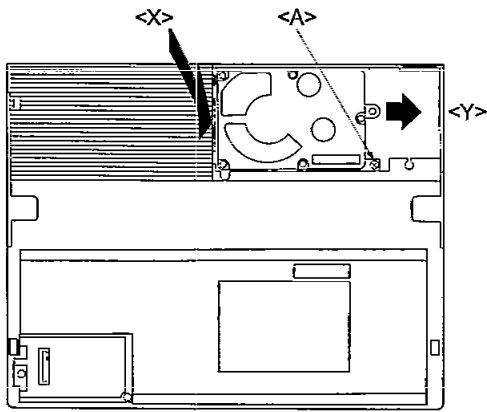

Figure 11
- (1) Close the display panel and turn over the computer.
- (2) Remove one screw <A> ($\text{Ø}2 \times 3 \text{ mm}$).
- (3) Remove HDD by pushing the HDD at the gap <X> in the direction <Y> using a flat head screw driver as shown in Figure 11.